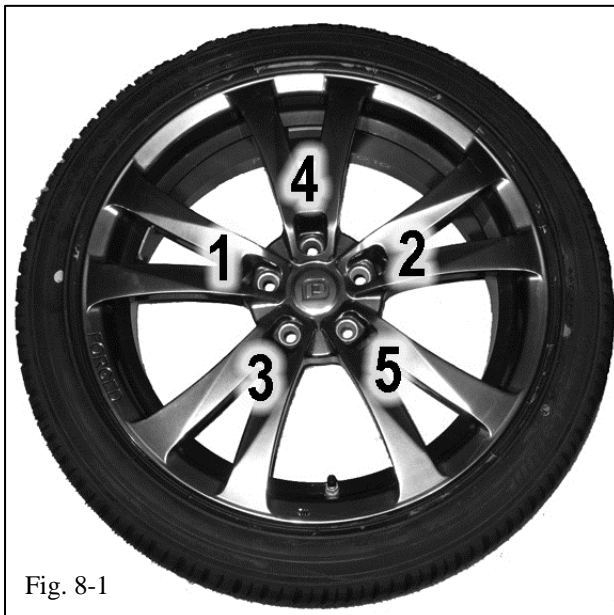

Fig. 8-1
**⚠** (a) Install wheel/tire assemblies onto vehicle. Hand start the recommended lug nuts. Install one wheel lock per wheel (excluding the spare) at the 12 O'clock, or top position, opposite valve stem (Fig 7.2). Tighten lug nuts in sequence 1 through 5 or equivalent star pattern. (Fig. 8-1). Ensure that the socket does not scuff the wheels.